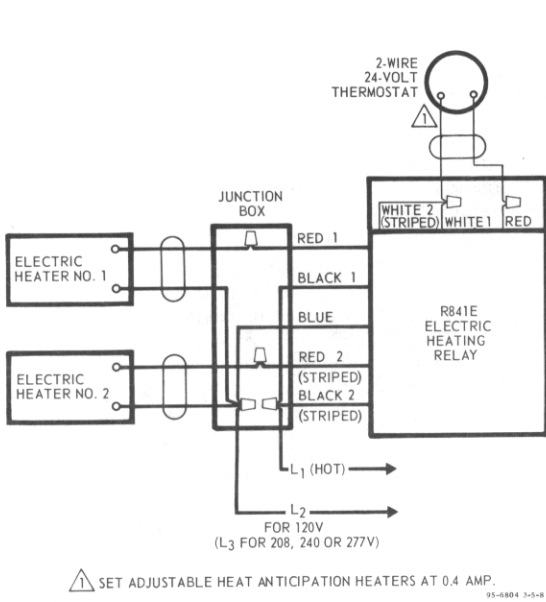

Fig. 3—Typical wiring hookup for one thermostat operating two loads simultaneously.
2. Run line-voltage wire from heaters to relay junction box. Using solderless connectors, make the connections shown in Figs. 3, 4, or 5.
3. Run thermostat cable from the thermostat to the relay. Connect to relay according to Figs. 3, 4 or 5. ALL WIRING MUST AGREE WITH LOCAL CODES. Be sure the power supply voltage agrees with the rating on the relay label.